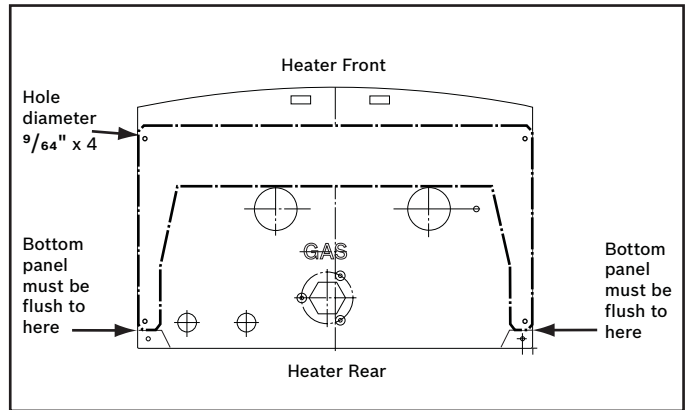

Fig. 4 Drill template alignment to water heater bottom
3. For heaters without pre-drilled holes, place the water heater on its back with the front cover removed. Position bottom panel of pipe cover over the bottom of the water heater being sure to line up flush where indicated (See Fig. 4). Once aligned, mark the four holes in the bottom panel for drilling. Remove bottom panel and drill four  $\frac{9}{64}$ " diameter holes into the bottom of the water heater.